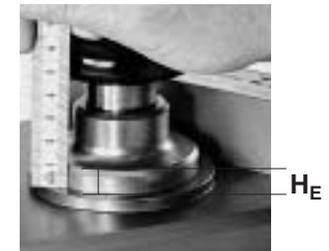

Fig. 6.1 Measuring the difference of level
- Turn the crank (12) back counterclockwise until slight resistance is encountered (**initial position**).
- Measure the **distance H_A** (see Fig. 6.1) between the highest point of the device plate (5) and the outer top edge of the piston (4) in this position.
- Now turn the crank (12) clockwise until slight resistance is encountered (**end position**).
- Measure the **distance H_E** (see Fig. 6.1) in this position.